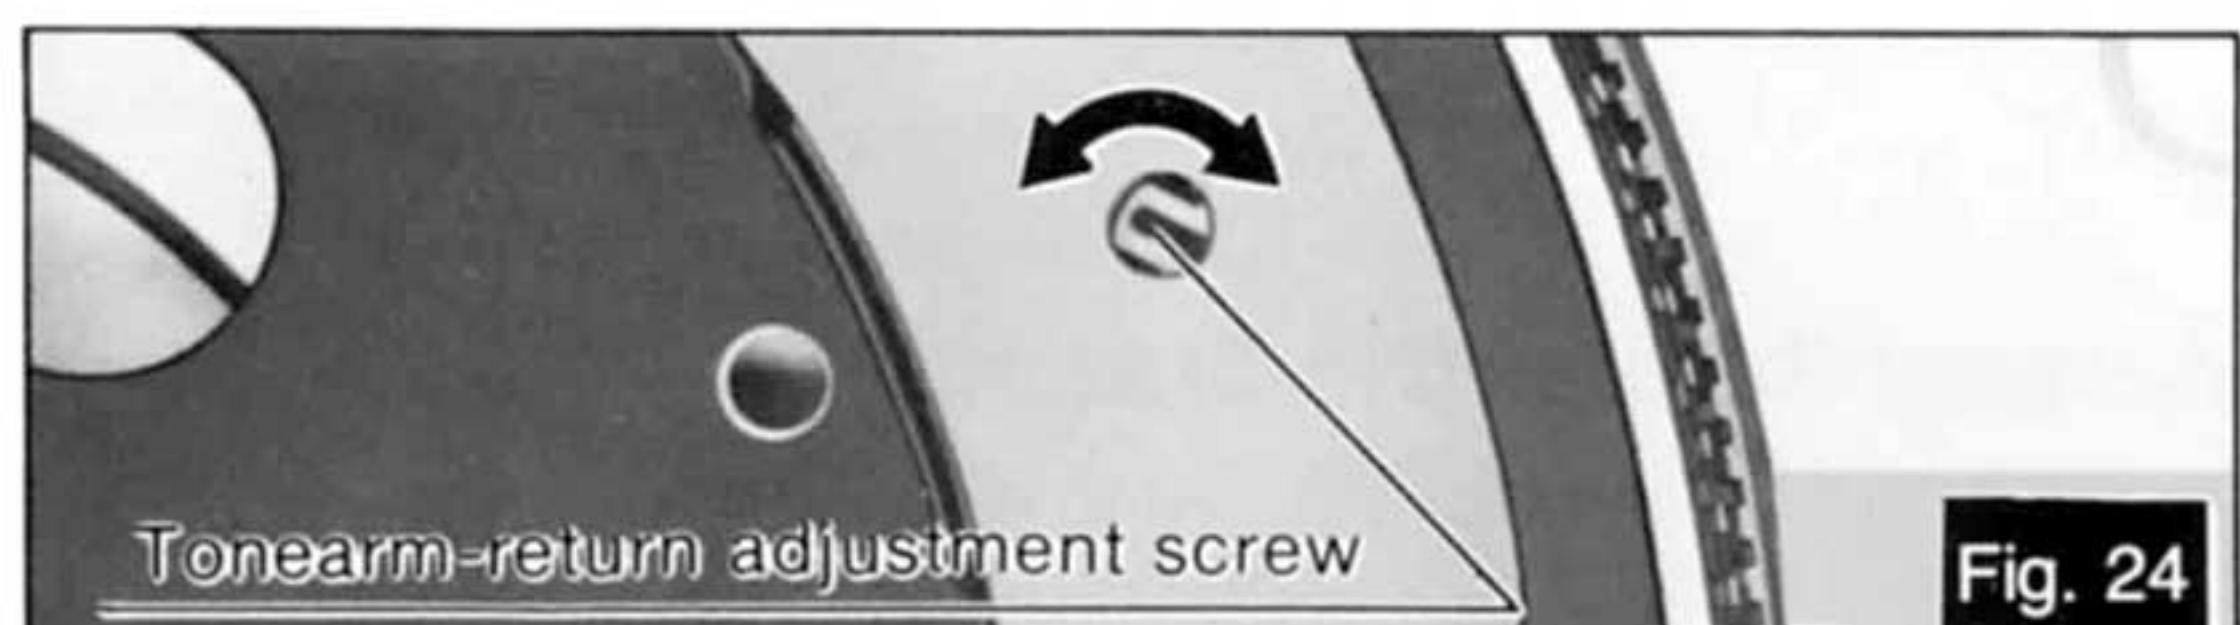

Fig. 24
③ Adjustment for automatic return position (See Fig. 24.)